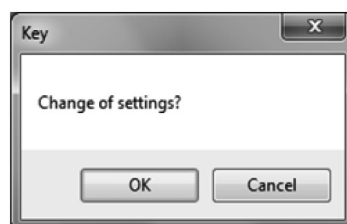

Fig.99
- ③ Set each item. Click the up/down switches on the right side of items to change the numerical values. For other items, select "ON" or "OFF".
- After all settings are complete, click the "OK" button to display a message box (Fig. 99).